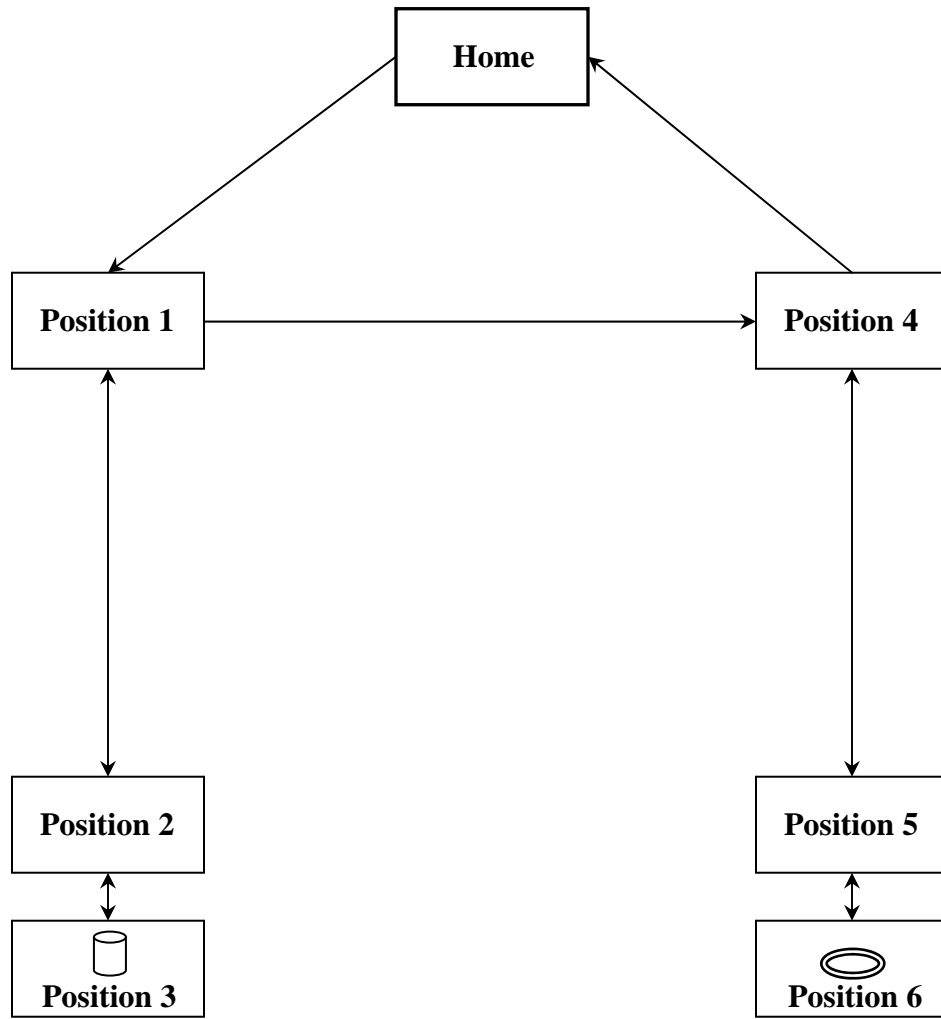
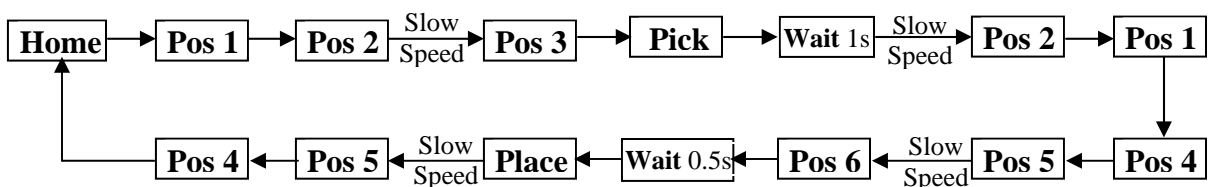

Fig. 3 Pick and place task
Fig. 4 Movement steps
- i. *Copy* and *Paste* operations can be done using the *Edit* menu when movement to a particular position is repeated (movement to position 1, 2, 4, 5 are repeated. Refer Fig.4)
The task is picking an object from Position 3 and placing it at Position 6 (Fig.3). Fig. 4 shows the different steps in the task. After developing the program it is executed in the step by step mode as well as in auto-mode.